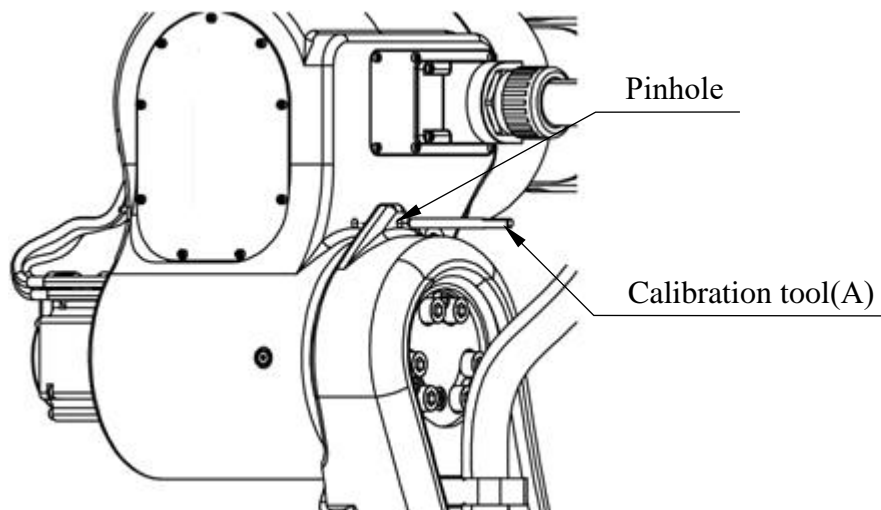

Figure 4-4 Illustration of J3-axis Zero-position setting
- J3-axis Zero-position setting (please refer to the Figure 4-4)
- Step2. Insert the calibration tool(A) to the pinhole to calibrate Zero-position.